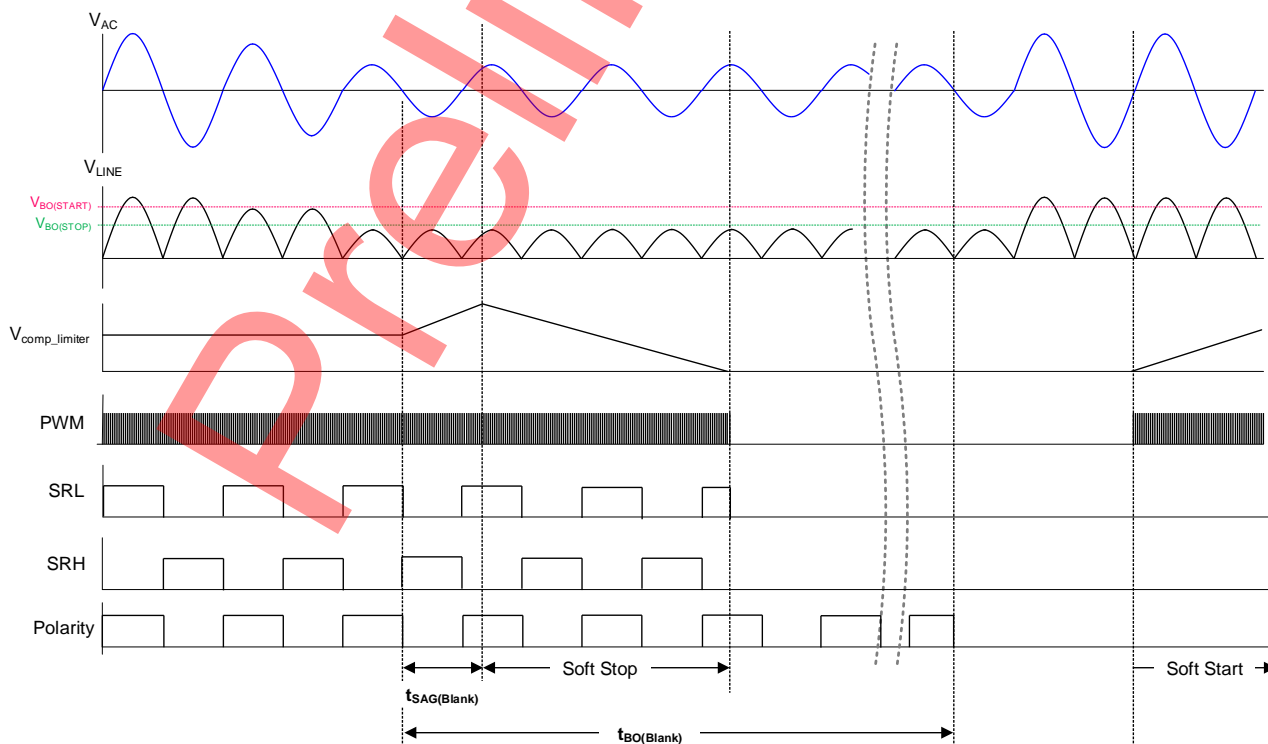

Figure 25. Brown-out (BO) and Line sag
20. Brown-out (BO) and Line sag
Figure 25 shows the IC feature set includes line voltage Brown-out (BO) and Line sag (SAG) detection. Both BO and SAG are activated when Line voltage falls below $V_{BO(STOP)}$. When $V_{LINE} > V_{BO(START)}$, the controller will return from the BO or SAG fault state.